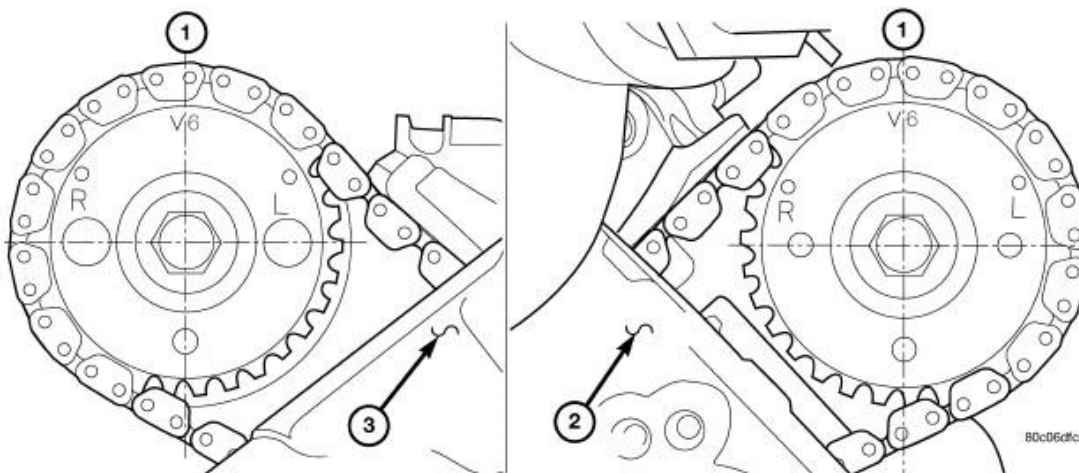

Fig. 61: Camshaft Sprocket V6 Timing Marks
2. Set engine to TDC cylinder No. 1, camshaft sprocket V6 marks at the 12 o'clock position (1). Refer to **Fig. 61**.